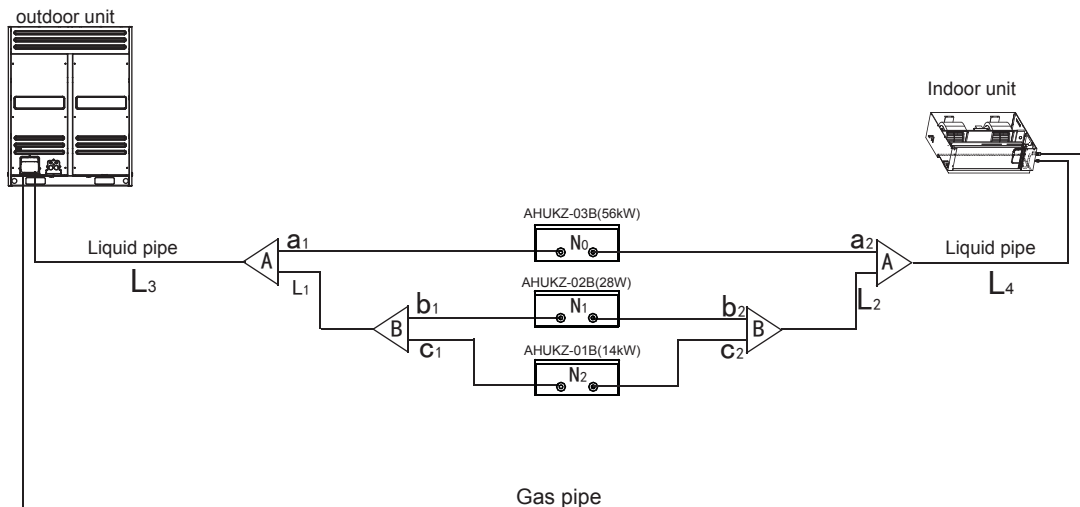

Fig.6-1
Pipe name	Code(refer to Fig.6-1)
e.x.1: Refer to Fig.6-1, the capacity of downstream controller box to L₄ is 560+280+140=980, the pipe is Φ19.1.